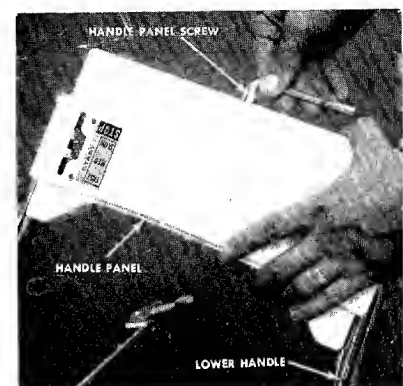

FIGURE 3.
4. Place the handle panel over the lower handle and fasten with the handle panel screw using a 5/16" wrench. See figure 3.